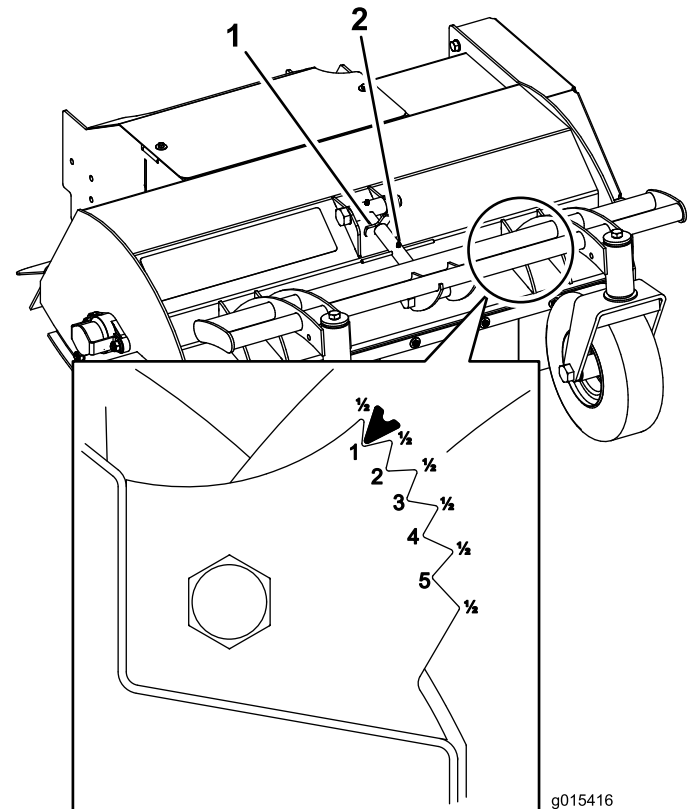

Figure 2
2. While facing the mower from the front, release the turnbuckle lock (Figure 2).
- Turn the turnbuckle clockwise to lower the height of cut and counterclockwise to raise it until you reach the desired setting on the height-of-cut gauge (Figure 2).